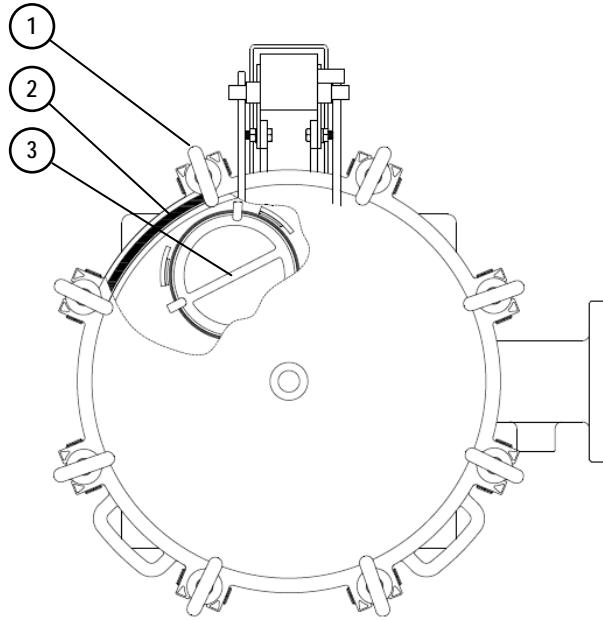

Figure 1
Table for Figure 1-Cover/Filter bag hold down
2. Loosen all cover ring nuts (Figure 1, item 1) and sing the bolts off of the cover.
3. Lift the cover to reveal the filter bags. Inspect the cover O-ring for damage and replace if necessary (Figure 1, item 2)
4. Remove the filter bag 3 point hold down (Figure 1, item 3) from each bag by rotating it counter clockwise.
8. Inspect the cover O-ring (Figure1, item 2) for damage and replace as needed.